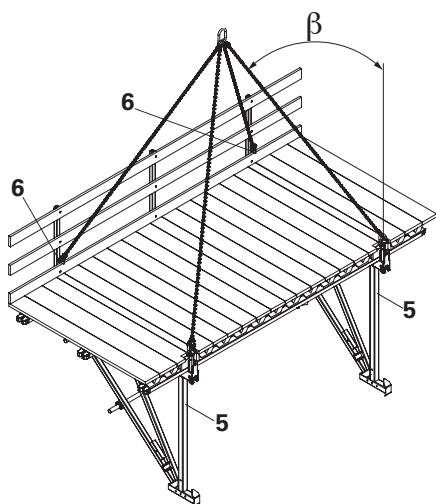

Fig. 6
Only one sling of the four-sling lifting gear may be attached to each Crane Eye CB 240-2 0.7 t and Crane Eye (6) of the Guardrail Holder respectively. (Fig. 6)
(Fig. 6)
2. Attach Hook (H) directly into the Crane Eye (6) of the Guardrail Post CB 240 and secure. (Fig. 6 + 6b)